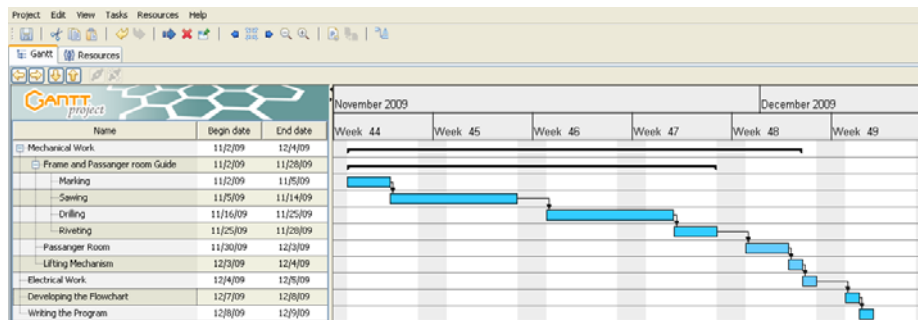

Figure 3.17: View of all tasks in weeks.
19. In the toolbar, click the Zoom out button to view the tasks in weeks as shown in figure 3.17.